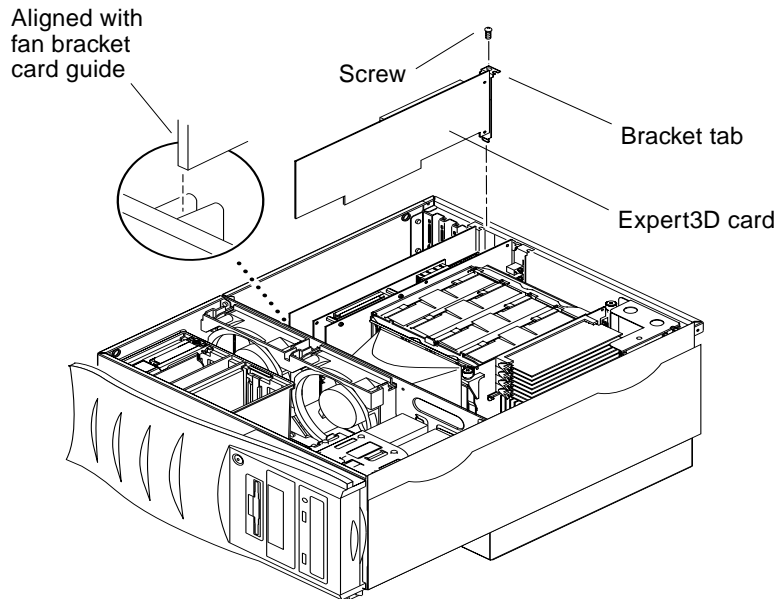

FIGURE 2-4 Installing Expert3D Graphics Card in an Ultra 80 System
- b. Lower the Expert3D connector so that it touches its associated PCI card slot on the motherboard (FIGURE 2-4).